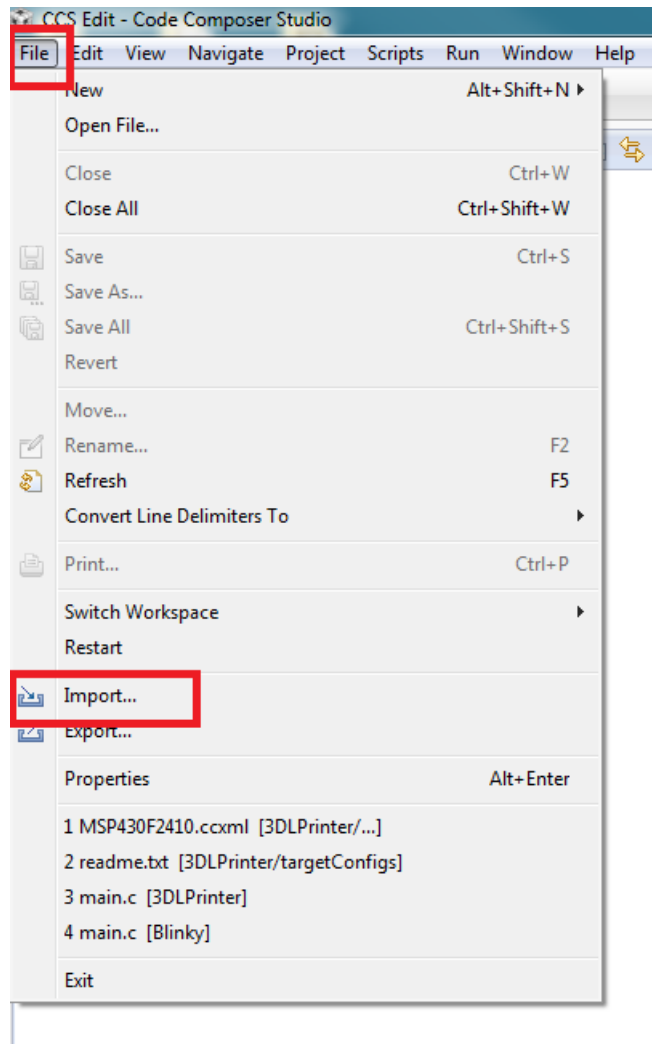

Figure 3-1. Importing The DLP 3D Printer Firmware Project
4. Click the **File** tab in the menu bar, then click **Import...** as shown in Figure 3-1.